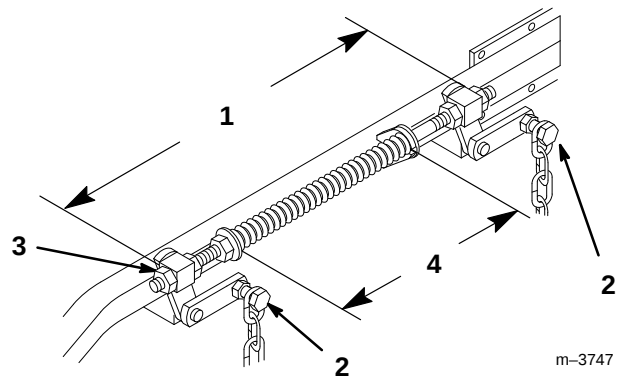

Figure 45
2. Springs are compressed so the distance between the two large washers should be 10-1/4" (260 mm) (Fig. 45).
3. Adjust by turning nut in front of each spring (Fig. 45). (clockwise will shorten spring, counter-clockwise will lengthen spring)